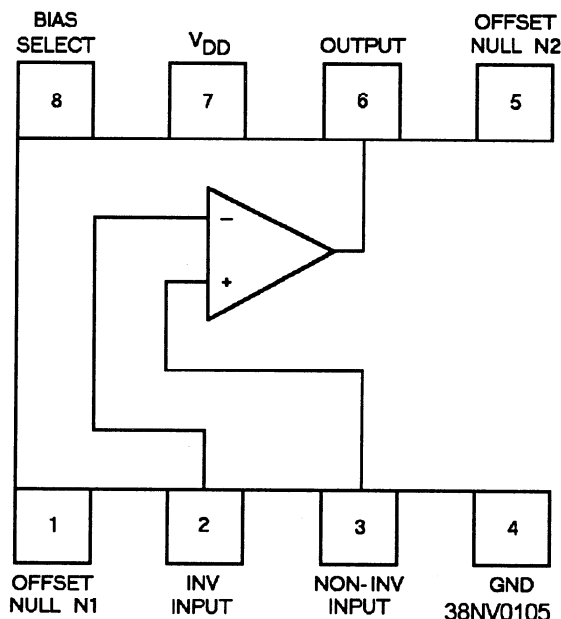

Figure 4-30.—Example of a Lin CMOS—Silicon gate MOSFET.
- **Lin CMOS** allows for linear and digital logic on the same IC. See figure 4-30.